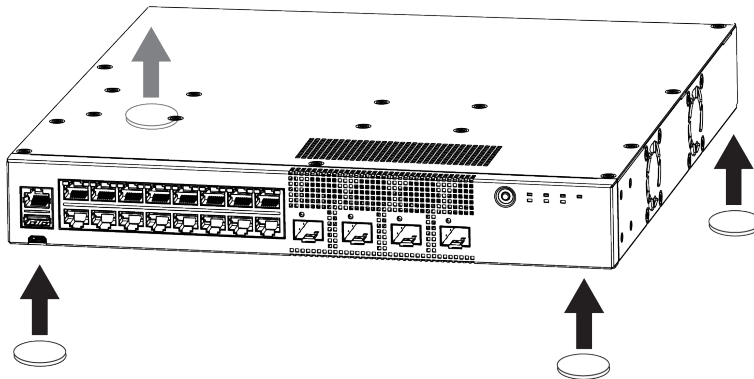

Figure 33: Table Mount: 5320 Series
2. Apply the pads to the underside of the switch by placing a pad at each corner, ensuring that all corners are aligned. Figure 33 shows the locations for attaching the rubber mounting feet on the switch.